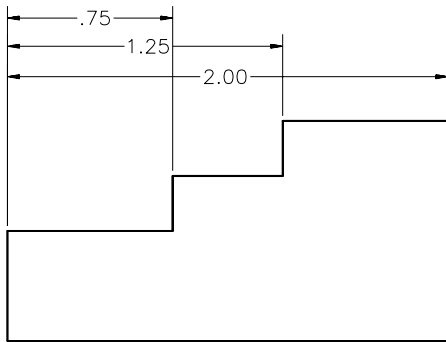

Figure 9-17 Drawing for Exercise 3,
1. Create the drawing shown in Figure 9-17. Assume the dimensions where necessary.
2. Dimension the drawing, as shown in Figure 9-17.